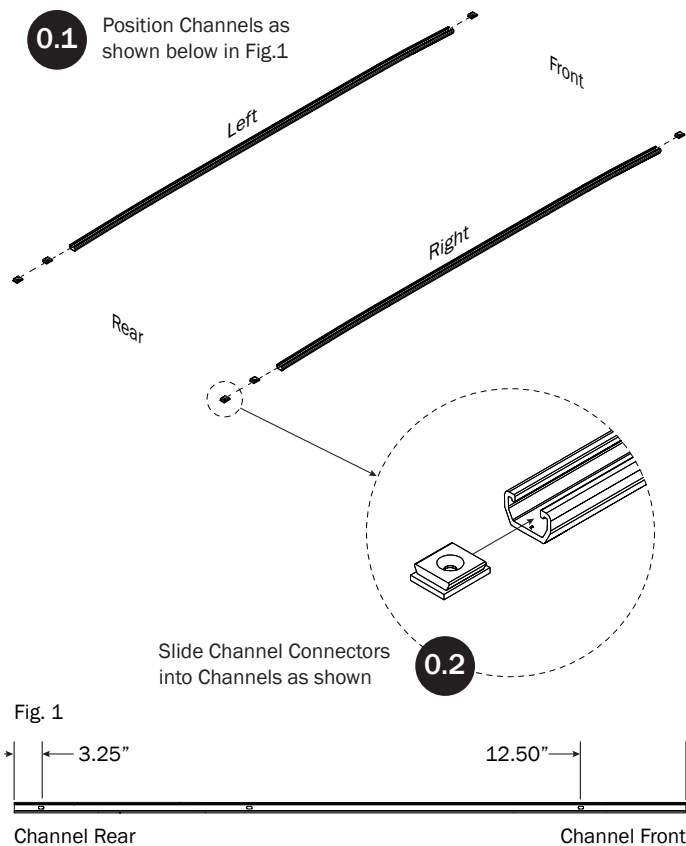

Fig. 1
- 0.1** Position Channels as shown below in Fig.1